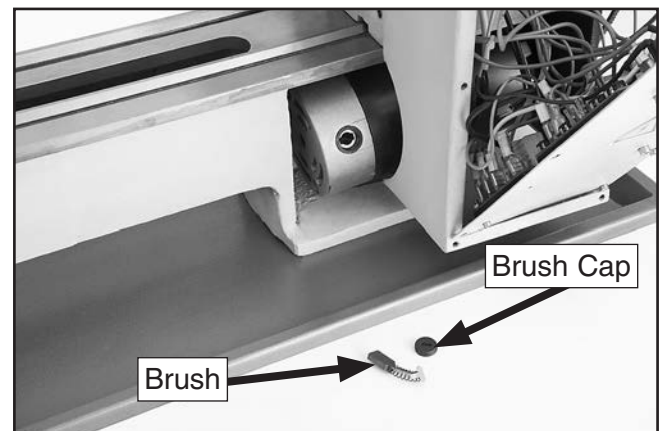

Figure 151. Top motor brush components removed (Model G0768 shown).
6. Unscrew brush cap and carefully remove brush from motor (see **Figure 151**).